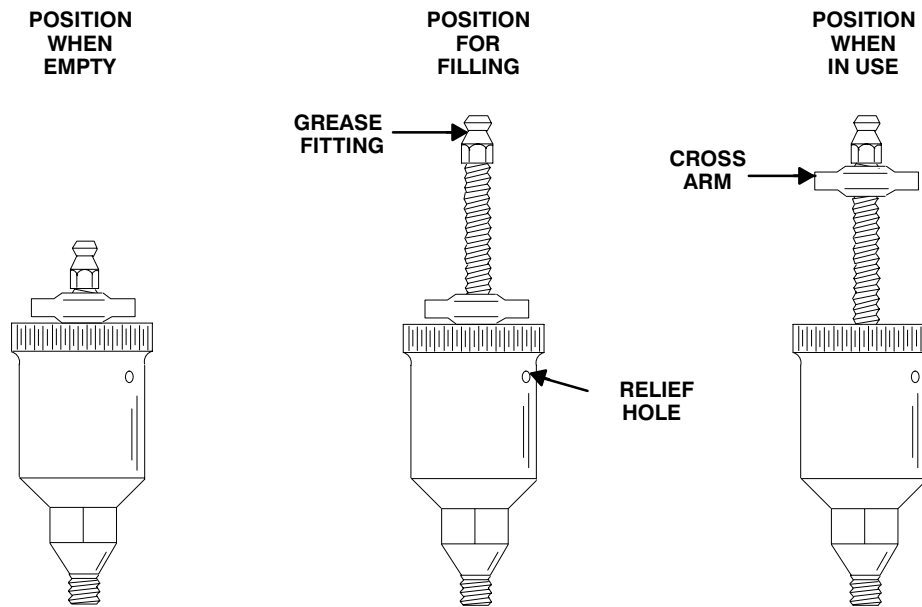

Figure 5. Automatic Lubricating Grease Cup
Before removing the impeller, turn the cross arm on the automatic grease cup (14) clockwise until it rest against the cover (see Figure 5). This will prevent the grease from escaping when the impeller is removed.
Fill the grease cup (14) through the grease fitting with No. 2 lithium base grease until grease escapes from the relief hole. Turn the grease cup arm counterclockwise until it is at the top of the stem; this will release the spring to apply grease to the seal (see Figure 5).